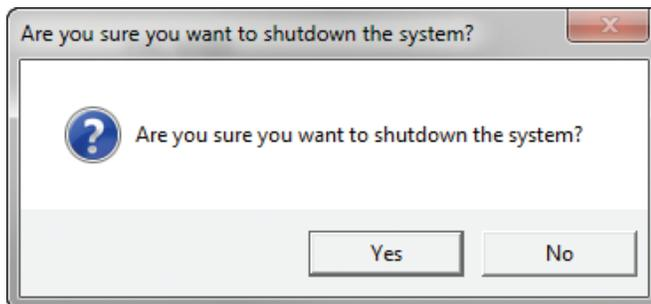

Fig. 88. System shutdown check.
2. On the Setup and Maintenance tab select **Shutdown**. The software will confirm with a dialog box that you intend to shut down the system (Figure 88).